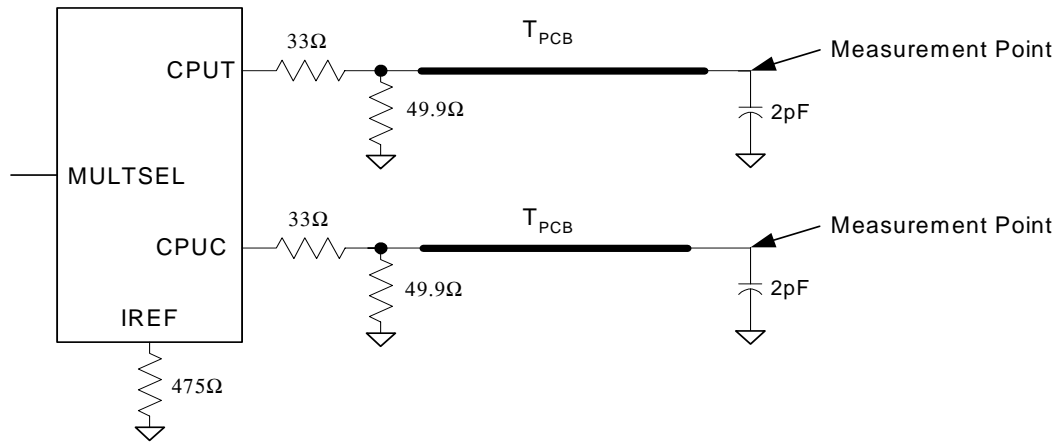

Figure 8. 0.7V Configuration
25. For CPU load. See Figure 8.